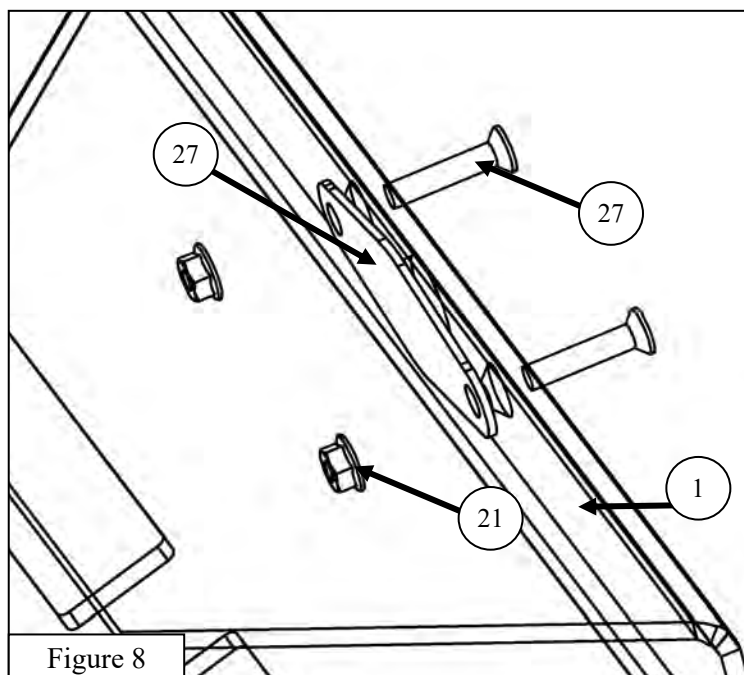

Figure 8
10. If camera is not installed, loosely install the camera holder cover (Item 13) to the bumper (Item 1) using (2) M6 Flat Head hardware (Items 27 and 21). Once loosely installed, tighten all the hardware. See **Figure 8**.
- Once aligned, align the inner camera holder to the screw holes and loosely mount the three parts to the bumper using the (2) M6 Flat head hardware ( items 27&21) See **Figure 8** for hardware placement. Once everything is mounted correctly tighten the bolts. See **Figures 11**.